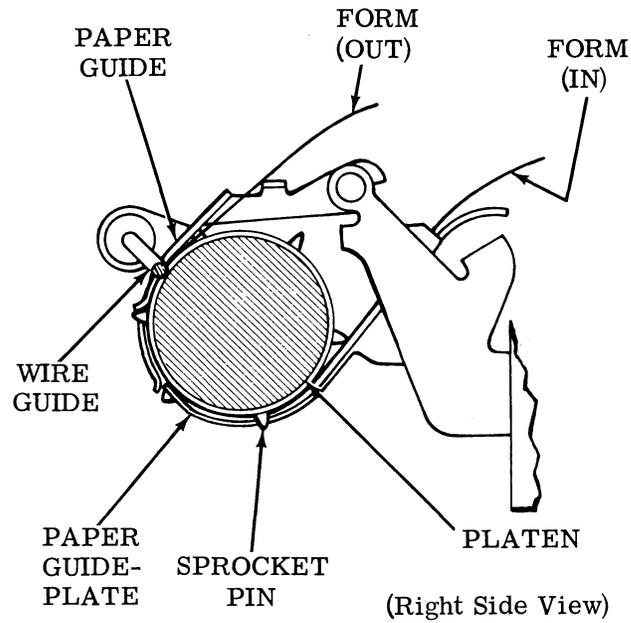

Figure 9 - Form Threading — Sprocket Feed
3.16 Figure 9 illustrates form threading for a sprocket feed typing unit.